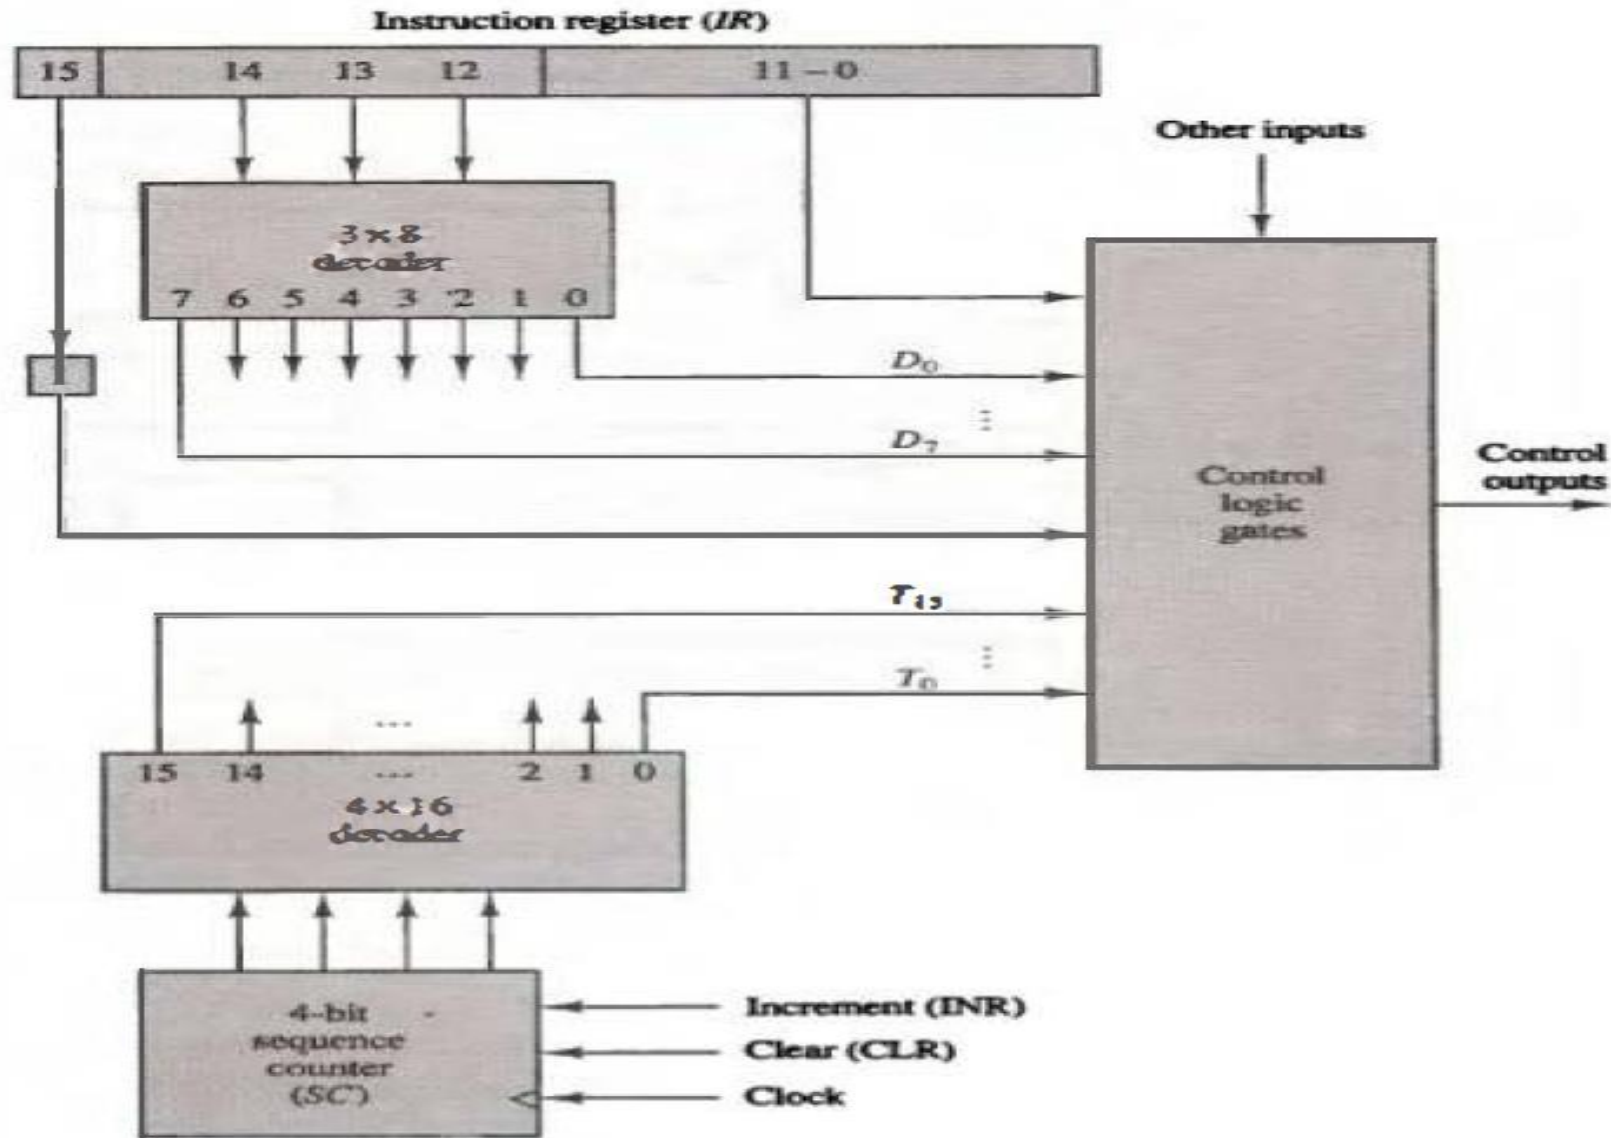

Figure 5-6 Control unit of basic computer.
- ❖ The block diagram of the control unit is shown in Fig. 5-6.
- ❖ The instruction register is shown again in Fig. 5-6, where it is divided into three parts: the I bit, the operation code, and bits 0 through 11.